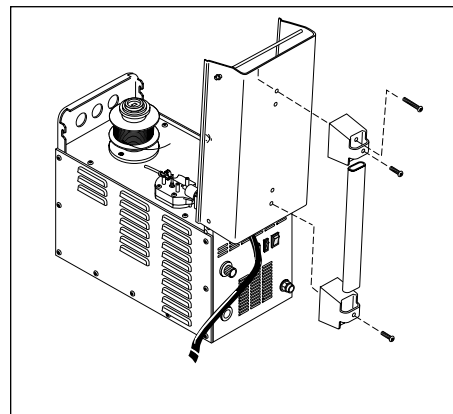

Figure 2 - Handle Assembly
2. Bolt plastic handle caps to cover as shown (Figure 2).